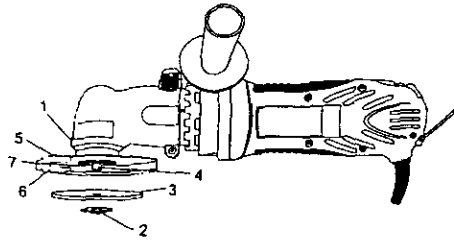

Fig. 26
1. Press angle grinder attachment locking button (1) and rotate flanged spindle nut (2) until the lock engages the shaft (see Fig. 26).
3. Place the grinding disc (3) over the spindle (4).